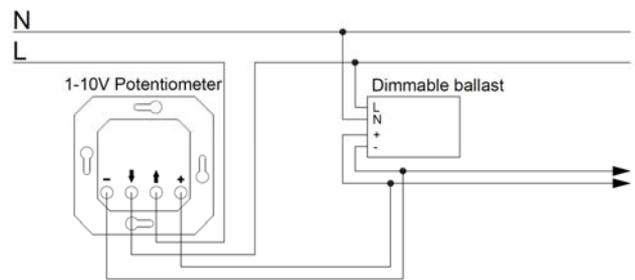
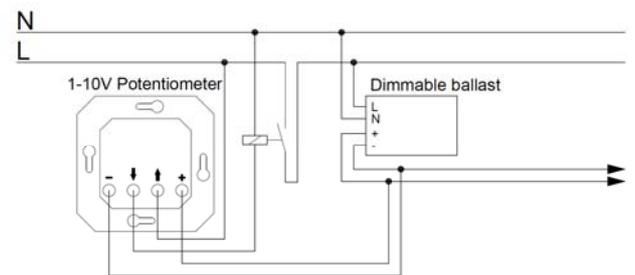

Figure 1
Figure 2
- Connect the wires, according to the connection diagram (Figure 1 or 2), to the dimmer base (5)
- Place the dimmerbase into the socket on the wall and fix the screws of the claws (4)
- Use the potentiometer (8) to set the minium dimming level
- Put the cover (2) in line with the frame (3), so that the recesses from the claw fixations (6) are compatible
- Tighten the nut (7)
- Put on the dimmer-button (1) according to the „D“-profile
- Switching current for 230 AC: 6A ohmic (external connector can be used for above 6A loads— Figure 2)